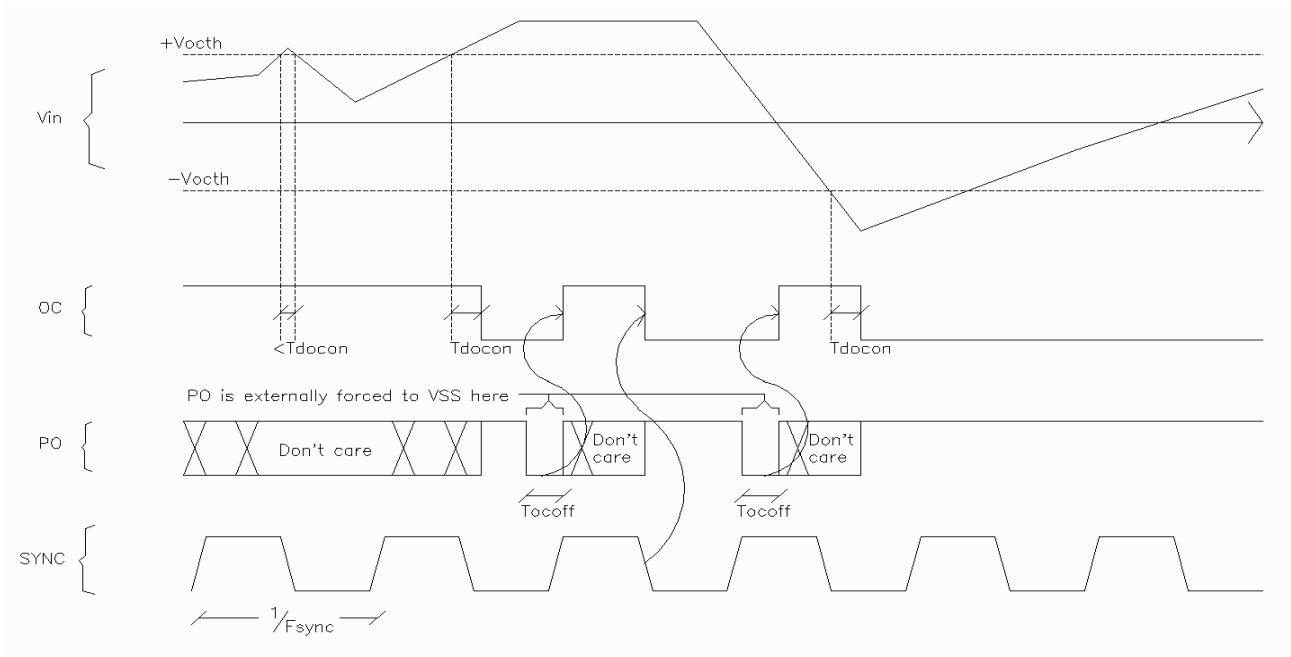

Figure 4: OC timing diagram
**Note 1:** negative logic, see Figure 4 on page 7
Over current is detected when  $|V_{in}| = |V_{inp} - V_{inm}| > V_{OCth}$ . If an event of over current lasts longer than  $t_{dOCon}$ , OC pin is forced to VSS and remains latched until PO is externally forced low for at least  $t_{OCoff}$  (see timing on Figure 4). During an over current event (OC is low), PO is off (pulled-up by external resistor).